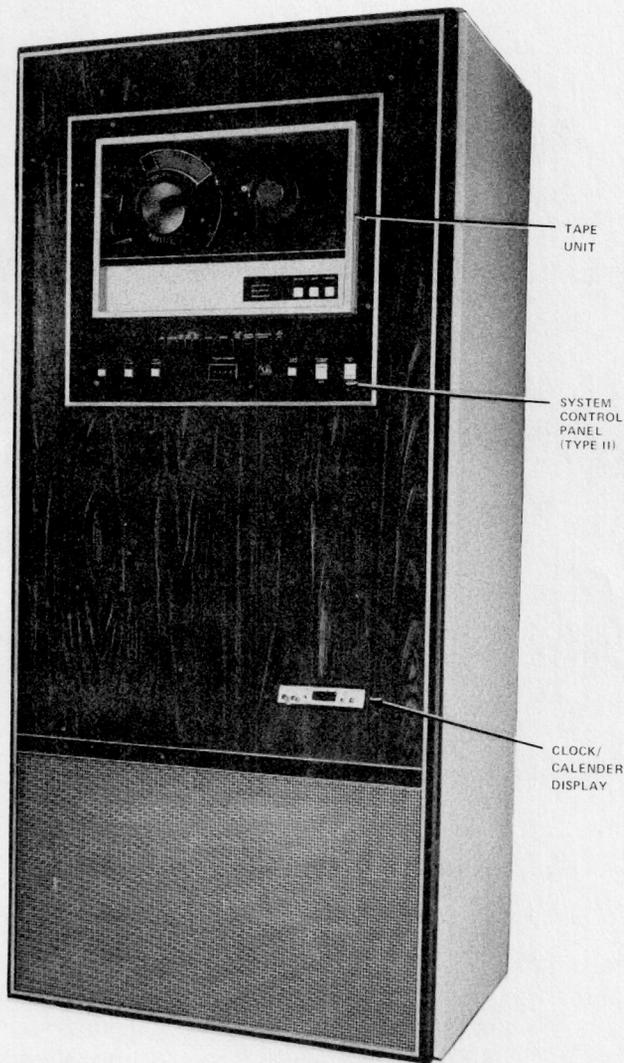

Fig. 2—SMDR 9-Track Cabinet
- (2) The **9-track magnetic tape** version is always provided in a separate cabinet (Fig. 2).